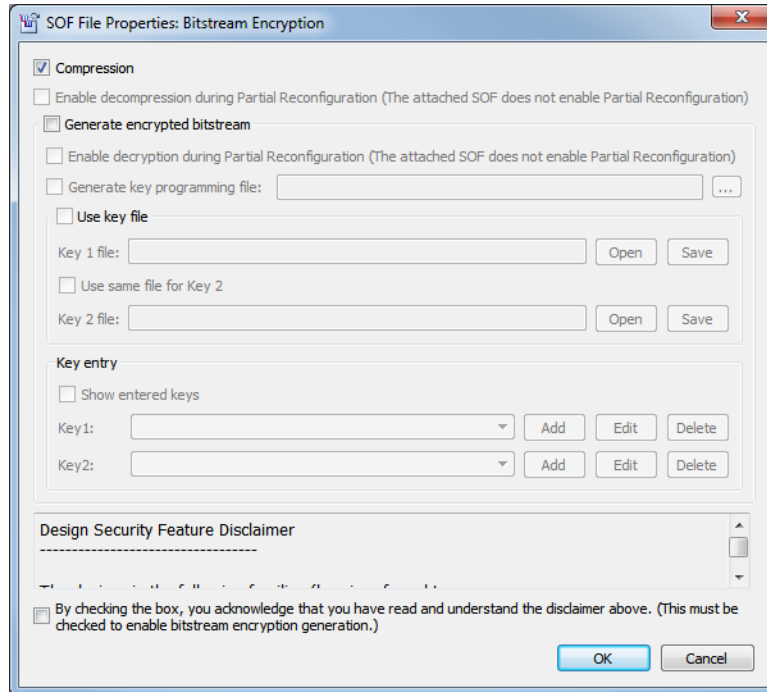

Figure 11. Enabling file compression.
6. Click and highlight the newly added .sof file in the list, then select **Properties**. You should see the window shown in Figure 11. Enable file compression by ticking the checkbox as shown, then press OK.